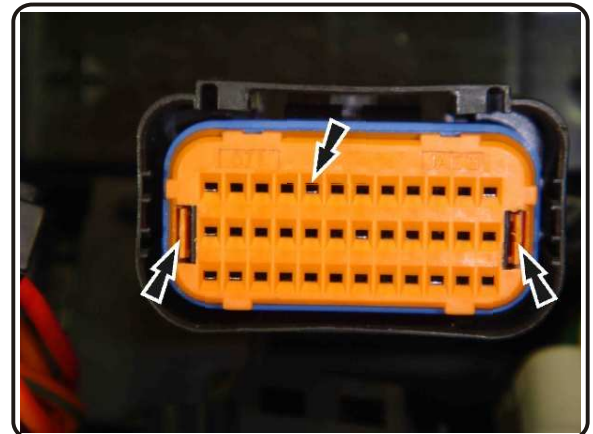

Fig. 2
- 4 Remove the orange cap by pressing the small orange tabs apart and pulling the orange cap off (see Fig. 2).
- 5 Pull out the #5 wire (BLACK WIRE W/ WHITE STRIPE). Insert a very small flat head screwdriver into the hole that the arrow is pointing to in Fig. 2. Gently pry down with the screwdriver to unlock the wire and pull on the wire from the rear of the plug to remove.